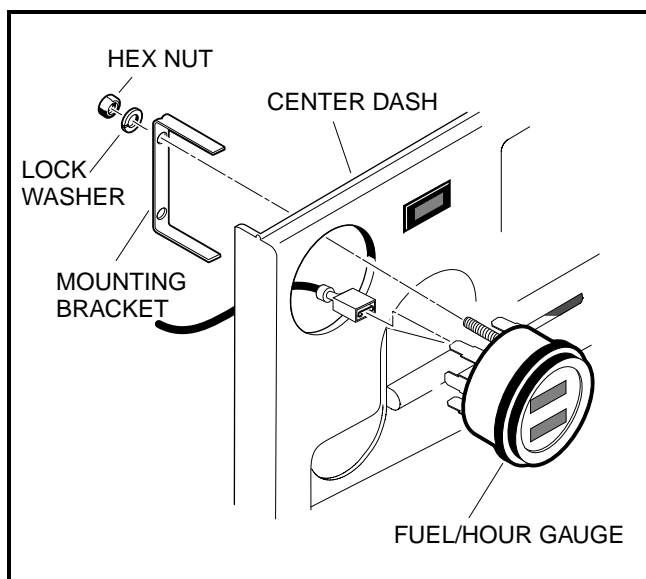

Figure 12-23 Fuel/Hour Gauge Installation
3. Disconnect the wires from the fuel/hour gauge (**Figure 12-23, Page 12-21**). Do not allow wires to touch.
4. Remove the hex nuts and lockwashers from the studs on the back side of the gauge (**Figure 12-23, Page 12-21**). Remove the mounting bracket from the back side of the gauge and remove the gauge from the center dash.
1. Install a new gauge into hole in dash. Be sure flange seats tightly against dash (**Figure 12-23, Page 12-21**).
3. Connect the blue wire from the key switch to the (2) terminal, the orange wire from the fuel level sending unit to the (1) terminal, the black wire from the frame ground to the (3) terminal, and the white wire from the solenoid to the (4) terminal.